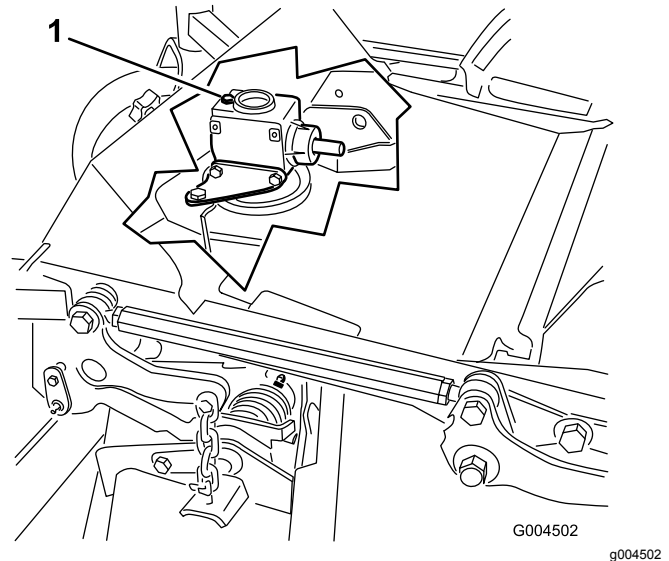

Figure 58
6. Remove the dipstick/fill plug from the top of the gearbox and make sure that the lubricant is between the marks on the dipstick (Figure 58).
6. Remove the dipstick/fill plug from the top of the gearbox (Figure 58).